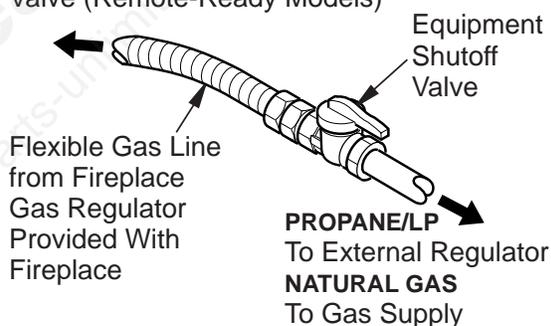

Figure 15 - Attaching Flexible Gas Line to Equipment Shutoff Valve
3. Apply pipe joint sealant lightly to male threads of gas connector attached to flexible gas line/equipment shutoff valve (see **Figure 15**).